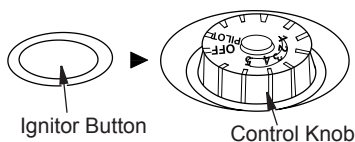

Figure 20 - Control Knob in the OFF Position
4. Wait five (5) minutes to clear out any air. Then smell for gas, including near the floor. If you smell gas, STOP! Follow "B" in the safety information above. If you do not smell gas, go to the next step.
5. Turn control knob counterclockwise  to the PILOT position. Press in control knob for five (5) seconds (see Figure 20).